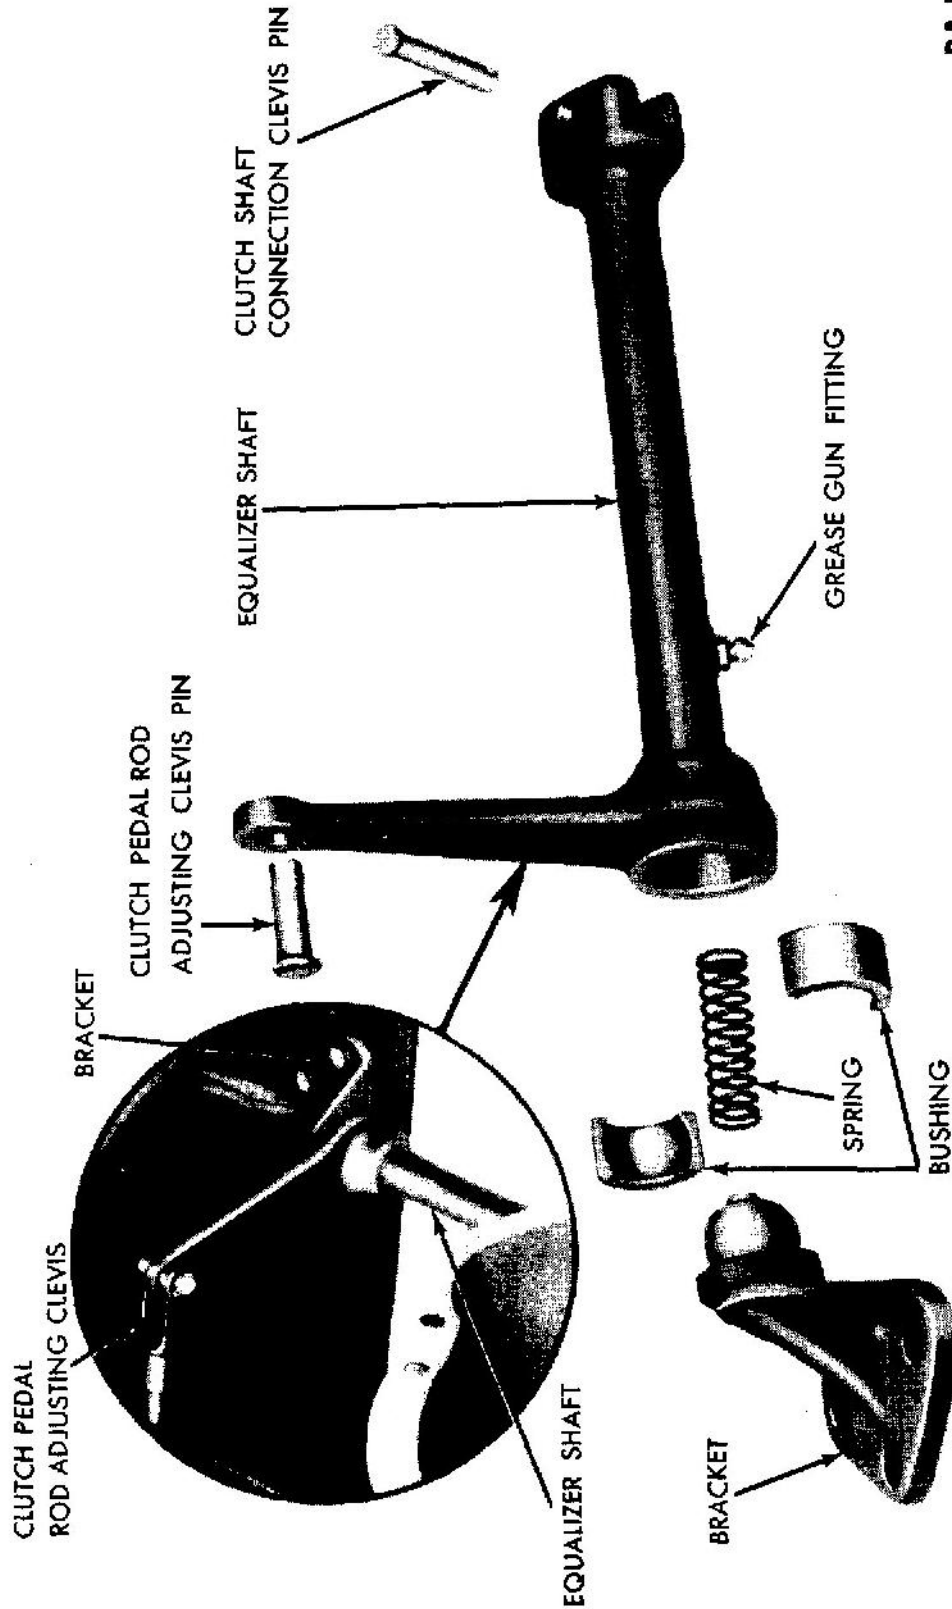

Figure 50 — Clutch Release Equalizer Shaft — Disassembled
a. Disconnect the clevis from the clutch equalizer lever on the left-hand side of the clutch housing (fig. 50). Adjust the length of the pedal rod by turning the clevis until the clutch pedal has 1½-inch free travel at the pedal pad. Install the clevis and cotter pin.
a. Remove the pin which connects the equalizer shaft to the clutch shaft. Remove the pin from the clevis at the equalizer shaft lever. Slide the equalizer shaft off the clutch shaft and pull the equalizer shaft off the bracket (fig. 50). To install the equalizer shaft, install the spring in the equalizer shaft and, holding the two halves of the split bronze bushing, slide the shaft over the ball on the bracket. Line up the slot in the other end of the equalizer shaft with the clutch shaft, and install the clevis pin and cotter pin. Adjust the clutch pedal (par. 100).